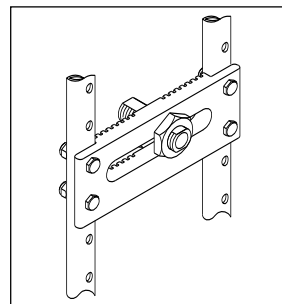

Figure 20
4. Seat Height Adjustment (Fig. 20)